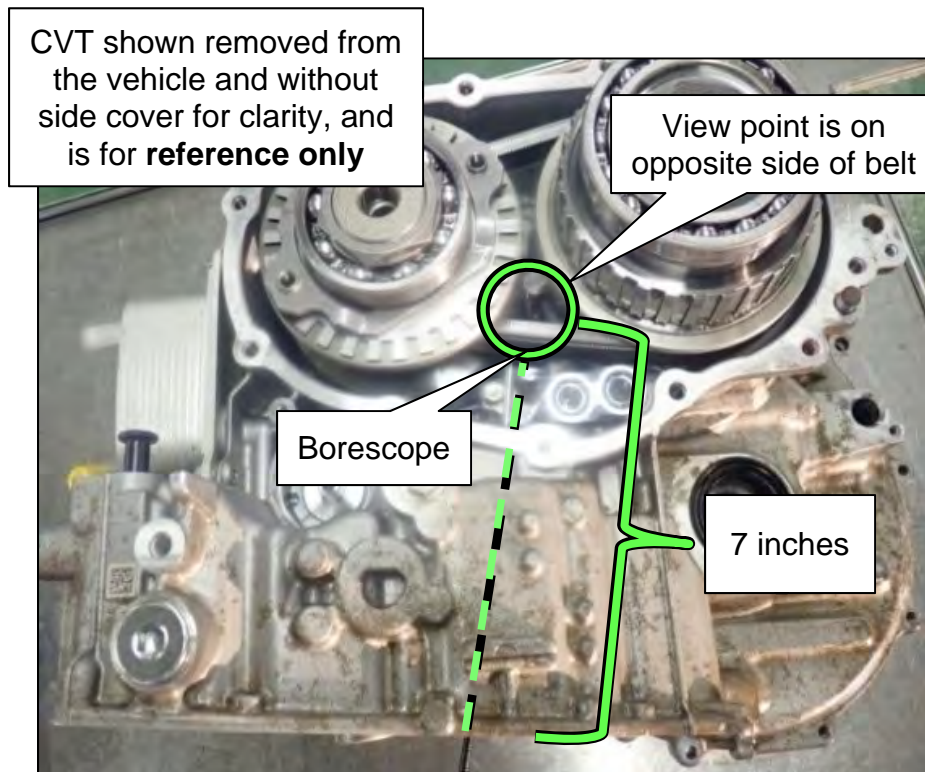

Figure 32
- ii. Insert the lens approximately 7 inches from the CVT oil pan gasket surface as shown in Figure 32 on page 21.